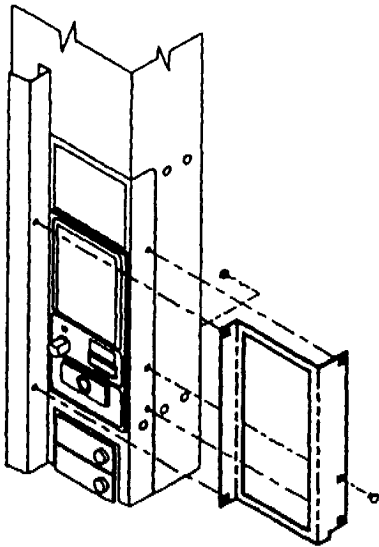

Figure 1
2. Remove the existing carriage bolt on the side of the door as shown in figure 1, page 1.
7. Place the decal frame in position. See figures 1 and 2 on page 1.